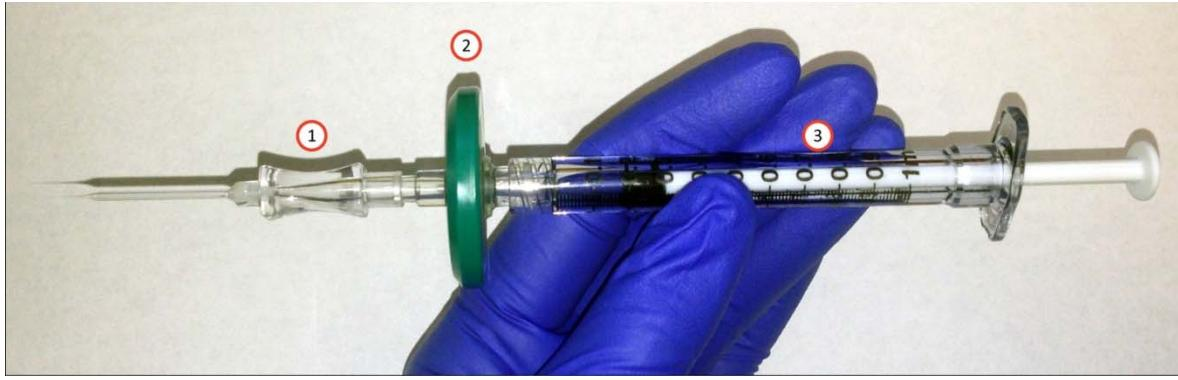

Figure 5: DCU and filter affixed to a luer lock sterile syringe. 1 – DCU; 2 – filter, 3 – syringe.
5. Make sure that a syringe with a male luer lock has been prepared with the plunger slightly pulled back and a filter attached to the tip (**Figure 5**). To empty the contents from the DCU, rotate the **UnipickK™ Head** 90° counterclockwise and carefully detach the DCU. Affix the DCU to the filter on the prepared syringe (**Figure 5**). Using both hands hold the DCU in a receptacle (e.g. microcentrifuge tube) and eject contents by gently pushing the plunger down.
4. Remove the DCU and dispense contents using a syringe as previously described (**Figure 5**).
7. Remove the DCU and dispense contents using a syringe as previously described (**Figure 5**).
4. Remove the DCU. Dispense the contents using a syringe (**Figure 5**) if desired.
5. Remove the DCU. Dispense the contents using a syringe (**Figure 5**) if desired.
Ejecting Cells From DCU: Prior to removing a DCU from **UnipickK™ Head**, pull the syringe plunger back and attach a filter to the syringe tip (**Figure 5**). Press the blue *Retract* button to bring the DCU up to the Starting position. Carefully remove the DCU from **UnipickK™ Head** and affix to the filter on syringe. Carefully position the DCU tip into preloaded media or buffer and slowly eject cells.